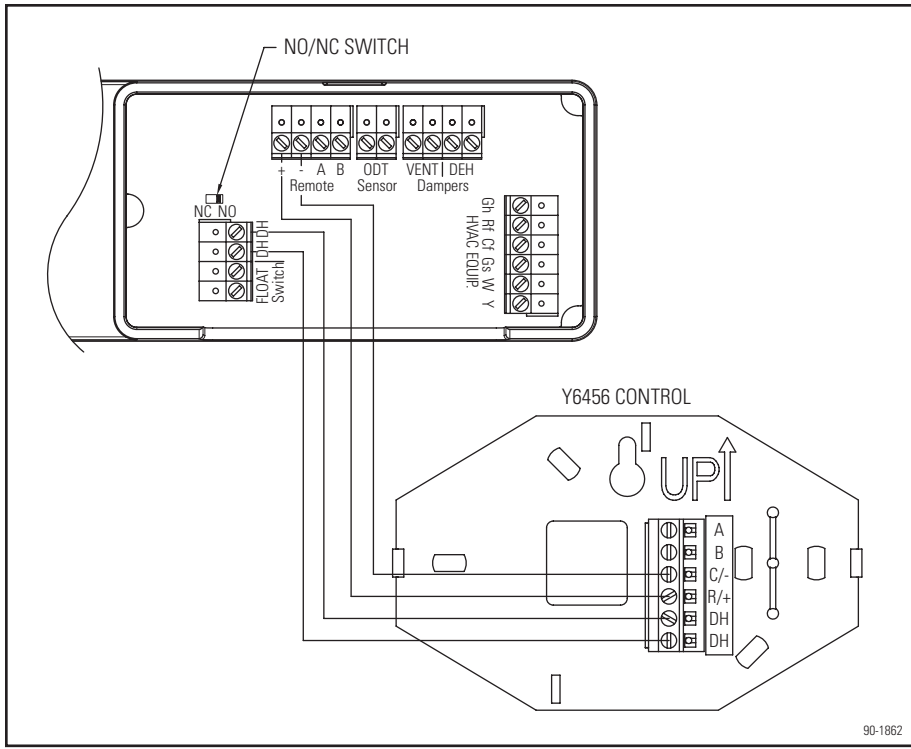

Figure 5. Y6456 External Control to Dehumidifier Wiring
3. Wire the Y6456 to the dehumidifier as shown in **Figure 5**.
4. Ensure the NO/NC switch on the dehumidifier control is set to NO (see **Figure 5**).